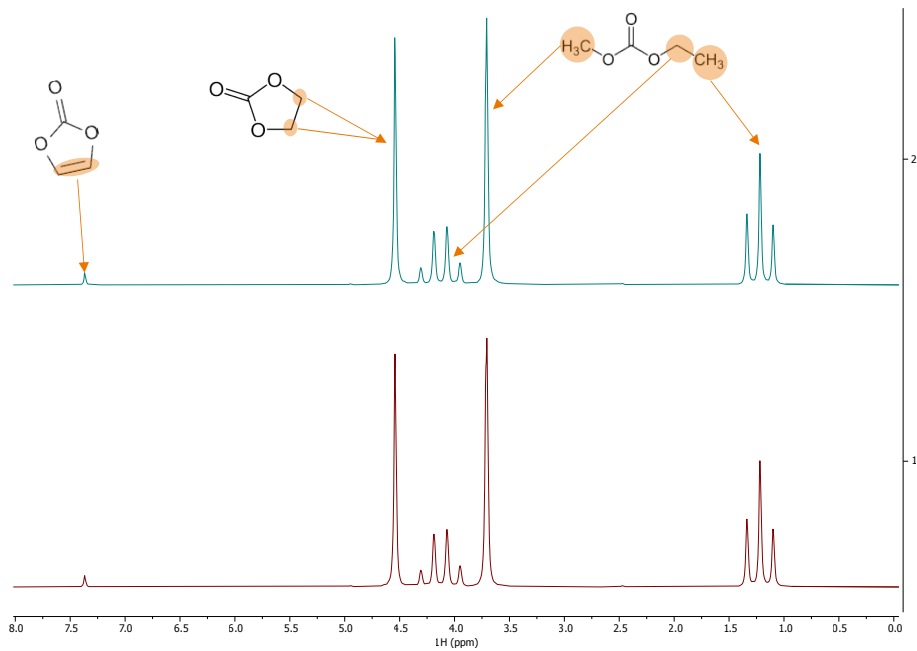

Figure 6 -  $^1\text{H}$  Spectra of two different batches of  $\text{Li}[\text{PF}_6]$  in EMC/EC.
In this case study, a chemical manufacturer had two different batches of their final product, a typical battery electrolyte of lithium hexafluorophosphate,  $\text{Li}[\text{PF}_6]$ , in a mixture of two carbonated solvents, ethyl methyl carbonate (EMC) and ethylene carbonate (EC). Although to the eye the two batches B1 and B2, looked identical it was found that batch B2 had very different performance characteristics to those expected when placed inside a battery cell. As with the previous examples, initially the  $^1\text{H}$  spectra of the two compounds were collected. The spectra both show all the expected peaks for the  $^1\text{H}$  nuclei in the two solvents as identified in figure 6. Visually, they appear identical. Again, as with the previous example